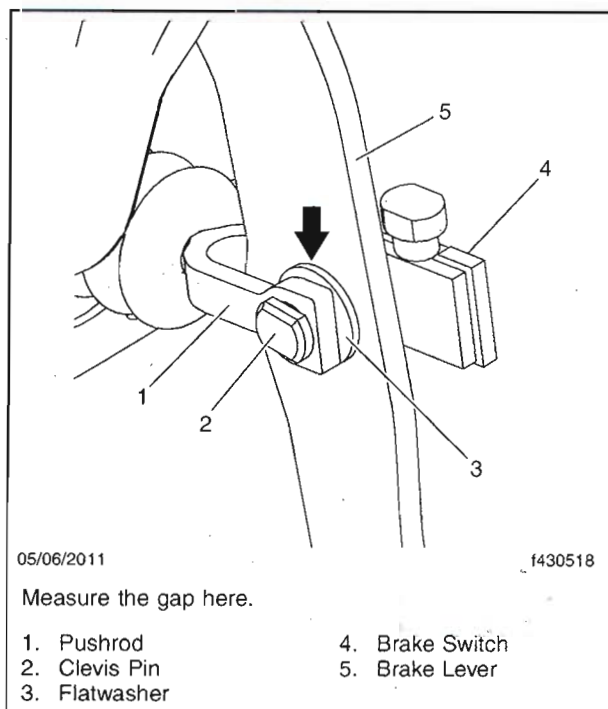

Fig. 3, Brake Switch Installation (fixed pedal shown)
4. Install the new clevis pin, flatwashers, brake switch, and hitch pin from the kit. Make certain one flatwasher is between the pushrod and the brake lever as shown in **Fig. 3**.
5. Using a feeler gauge, measure the space between the flatwasher and the brake pedal as shown in **Fig. 3**.